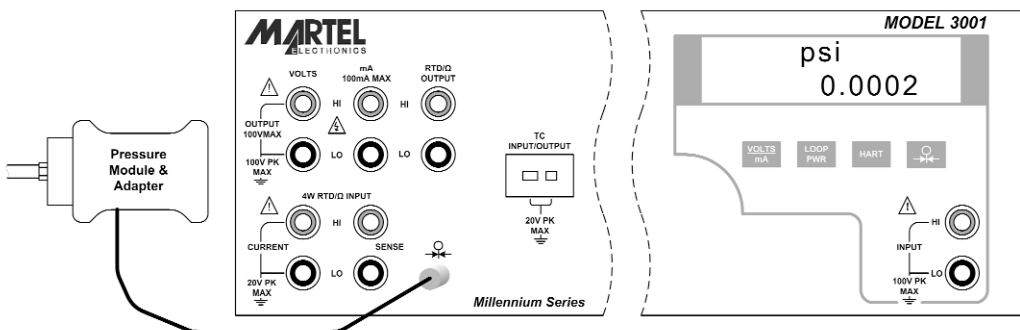

Figure 19 - Isolated Pressure Module Connection
- a) Connect the pressure module to the 3001 as shown in figure 19.